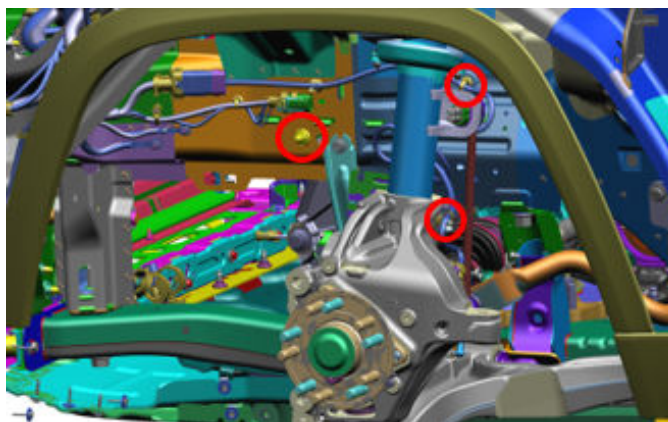

Fig. 3
7. Open the harness routing retainers Fig. 3.